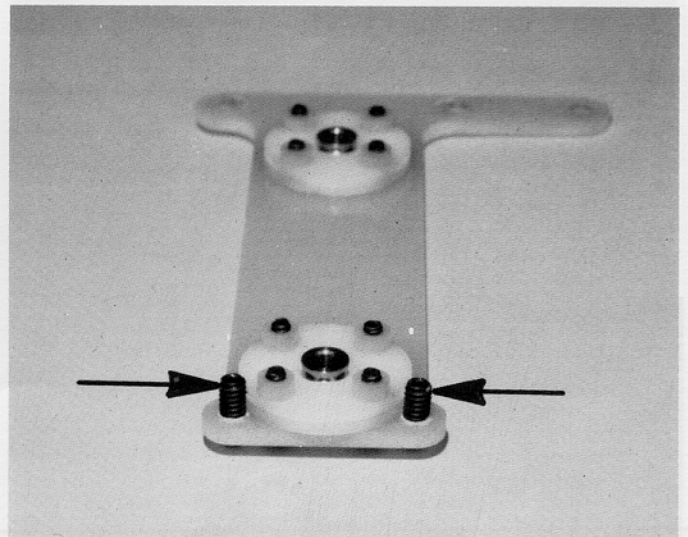

Fig. 16
□ **Fig. 16**—The two set screws you've just installed are called the TWEAK SCREWS. These are VERY IMPORTANT. We'll be coming back and adjusting these after the car is completely assembled.